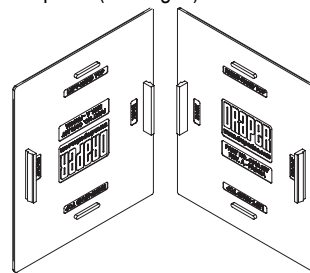

Figure 3
- ⑧ Snap end covers into place (see Fig. 3).